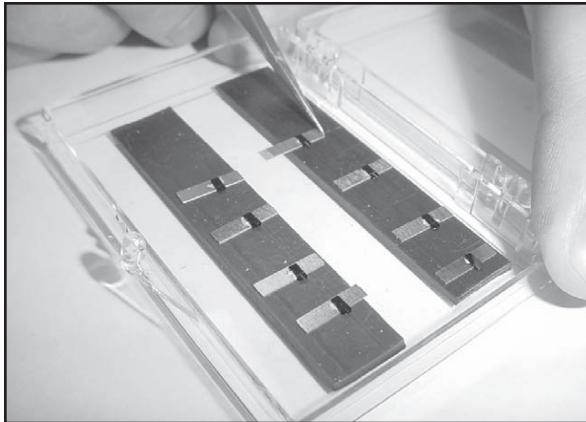

Figure 3.15: Nudge the Probe into Position
- Use tweezers to nudge the probe so that the metal plate extends over the edge of the magnetic strip in the probe box as shown in Figure 3.15.